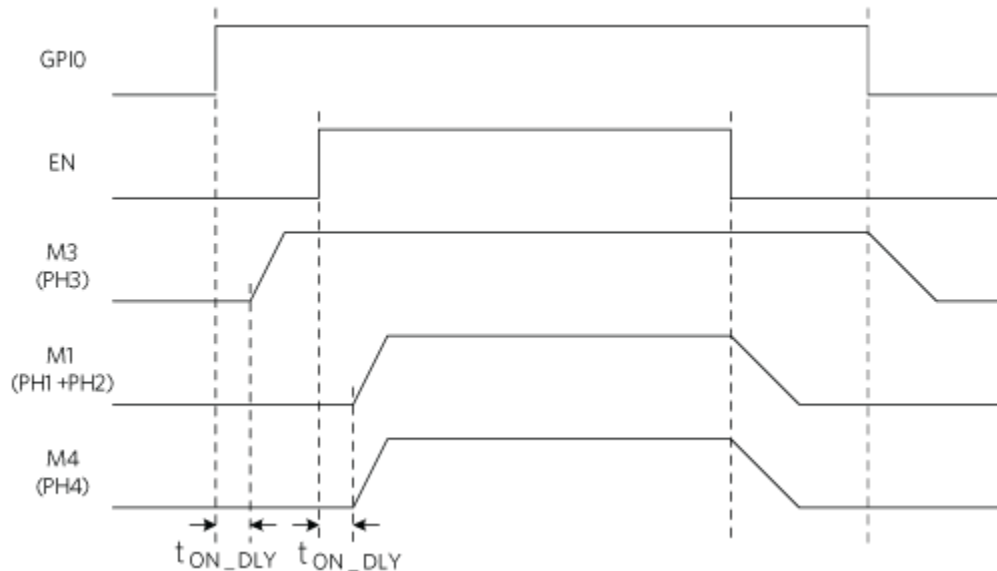

Figure 1. Timing diagram with GPIO and EN in a 2+1+1 phase configuration.
When GPIS are configured as the output-enable function, the enable logic of a specific regulator is an 'OR' logic of GPIS and the corresponding enable register bit (M_x_EN). For example, the default function of GPIO is Master 3 Enable (GPIO_FUNC[3:0] = 0011b), so that Master 3 Enable is controlled by GPIO and the M3_EN bit. If GPIO is set high earlier than 'Global Enable (EN)' input, Master 3 is enabled earlier than other master phases, as shown in Figure 1. The two GPIS can be configured as the same enable function (e.g., M2_EN = GPIO_FUNC[3:0] = GPI1_FUNC[3:0] = 0010b). In this case, those inputs are ORed with the M2_EN bit. The GLB_EN function (GPIS_FUNC[3:0] = 0000b) allows the host processor to enable all the masters in sequence based on the STUP_DLY_x registers. Note that M1 through M4 are defined by the PH_CFG0, PH_CFG1, and PH_CFG2 inputs.